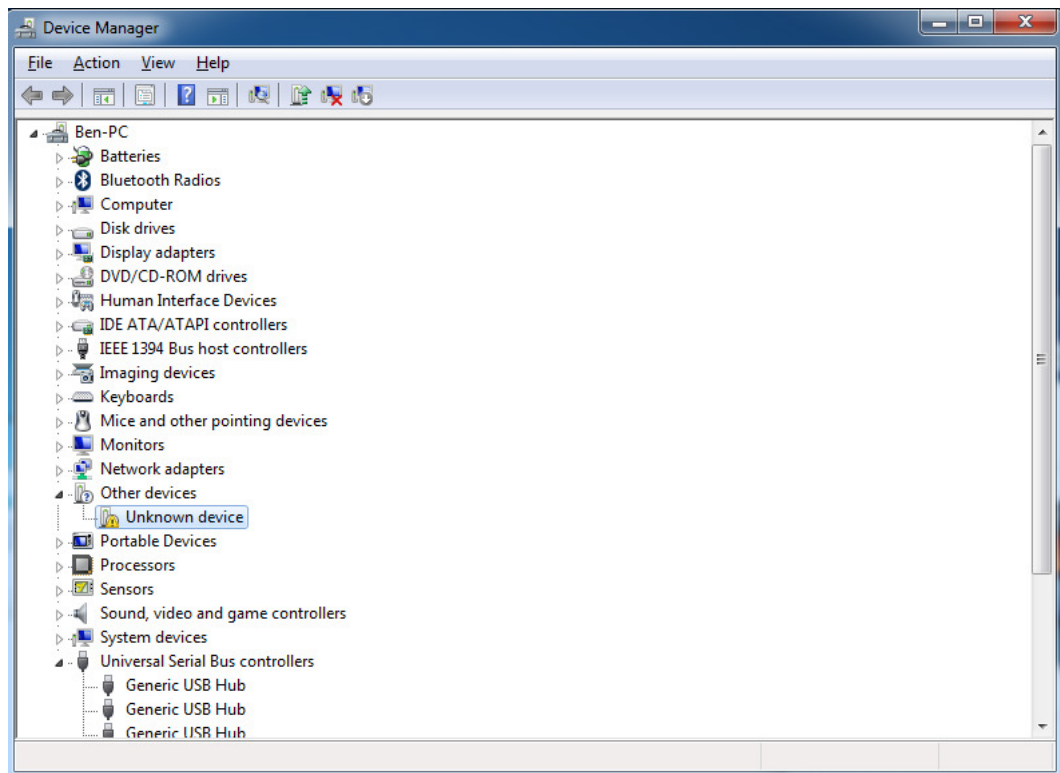
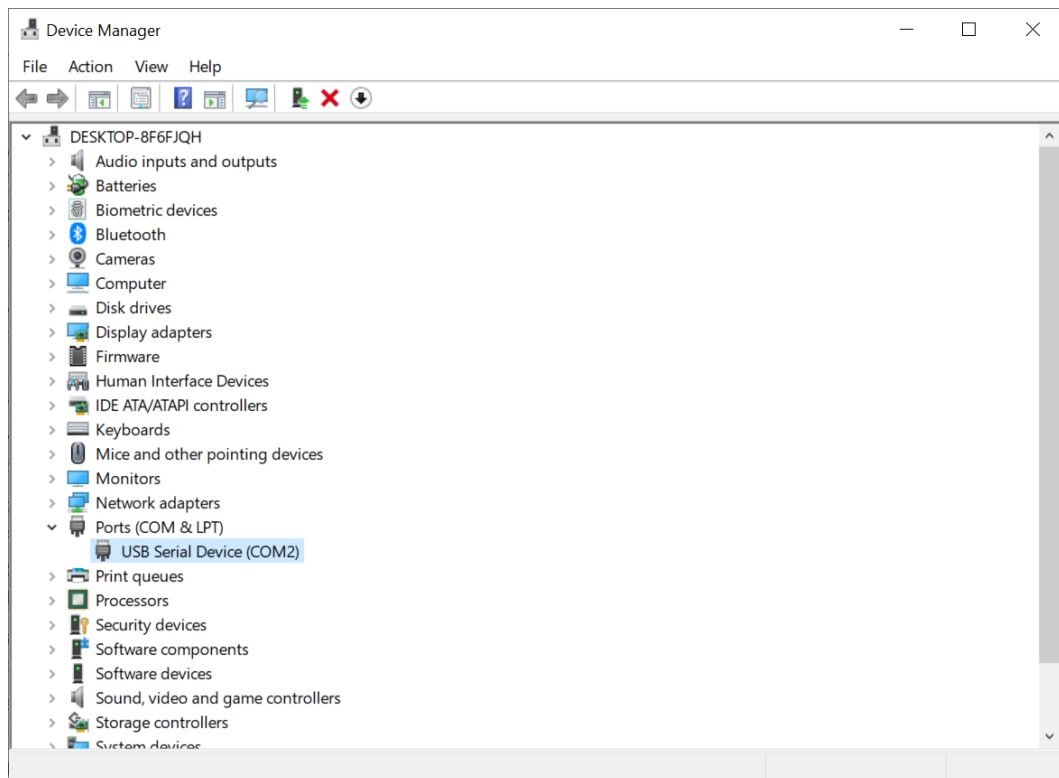

Figure 3.1: Windows device manager
Figure 3.2: Windows device manager
7. Look for “Other devices” in the “Device Manager” list, expand and locate “Unknown device”. This may be similar to what is shown in Fig. 3.1. In case, you don’t see “Unknown device,” look for “Ports (COM & LPT)” and expand it to locate “USB Serial Device (COM2)”. This may be similar to what is shown in Fig. 3.2.